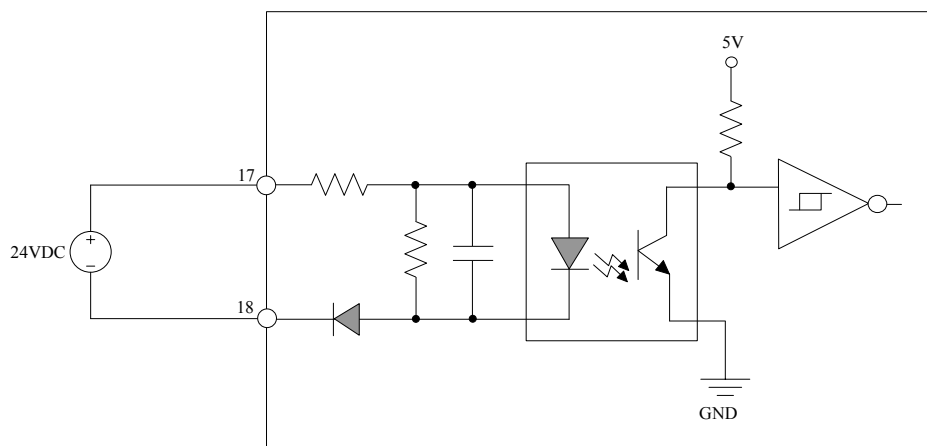

Figure 9.7: Field Power Loss Detection Circuit of LK710
- As shown in Figure 9.7, terminal “17” connects to the positive end of field power supply while terminal “18” connects to its negative end. LK710 carries out power loss detection by checking the changes of input voltage between these two terminals. In case of any failure, the failure status will be reported to the controller as the diagnosis data.